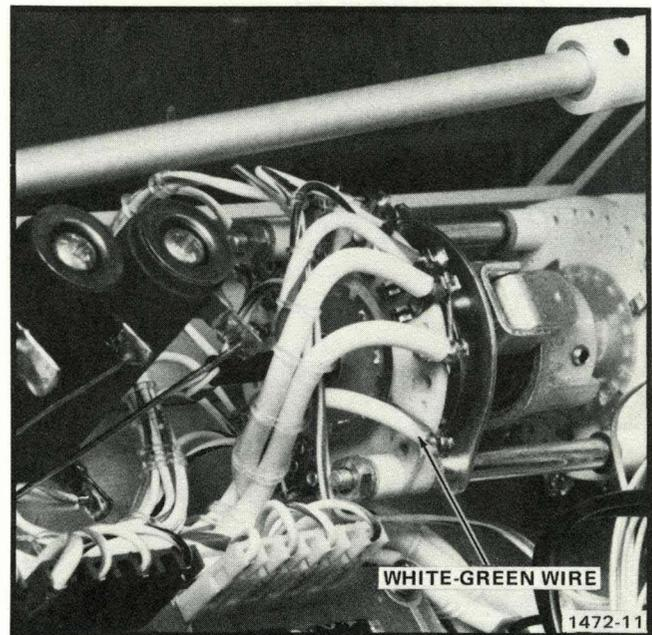

Fig. 5-3. Location of white-green wire on MAX PEAK VOLTS switch.
b. Connect the GROUND terminal on the 177 front panel to the white-green wire on the rear wafer on the MAX PEAK VOLTS switch (See Fig. 5-3). Connect the DVM between the B terminal and the white-green wire on the MAX PEAK VOLTS switch.